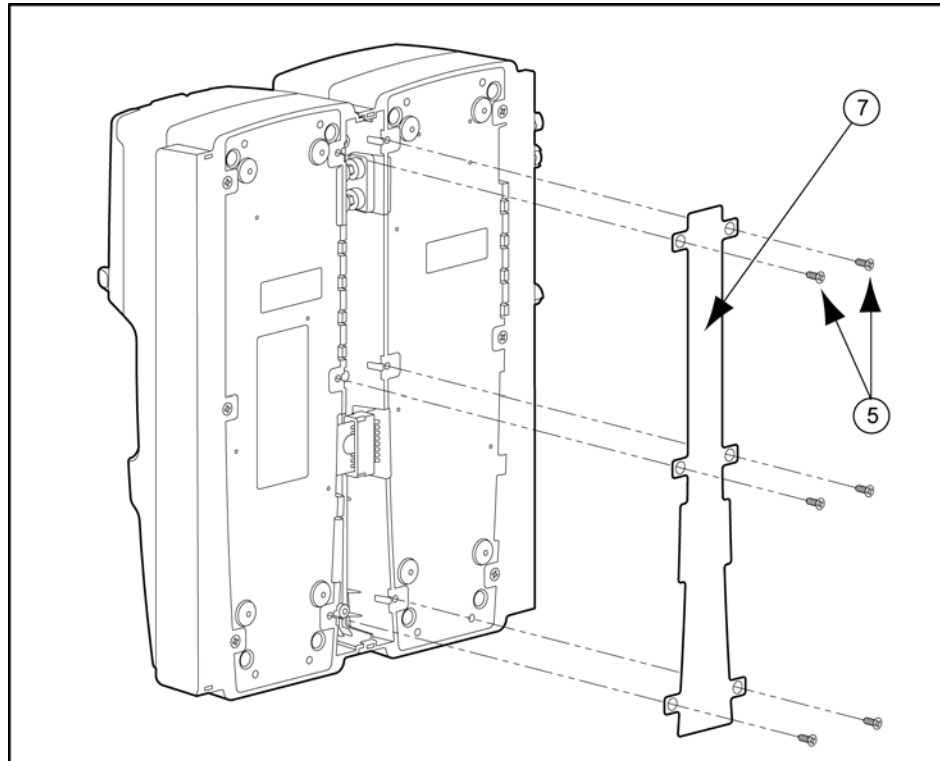
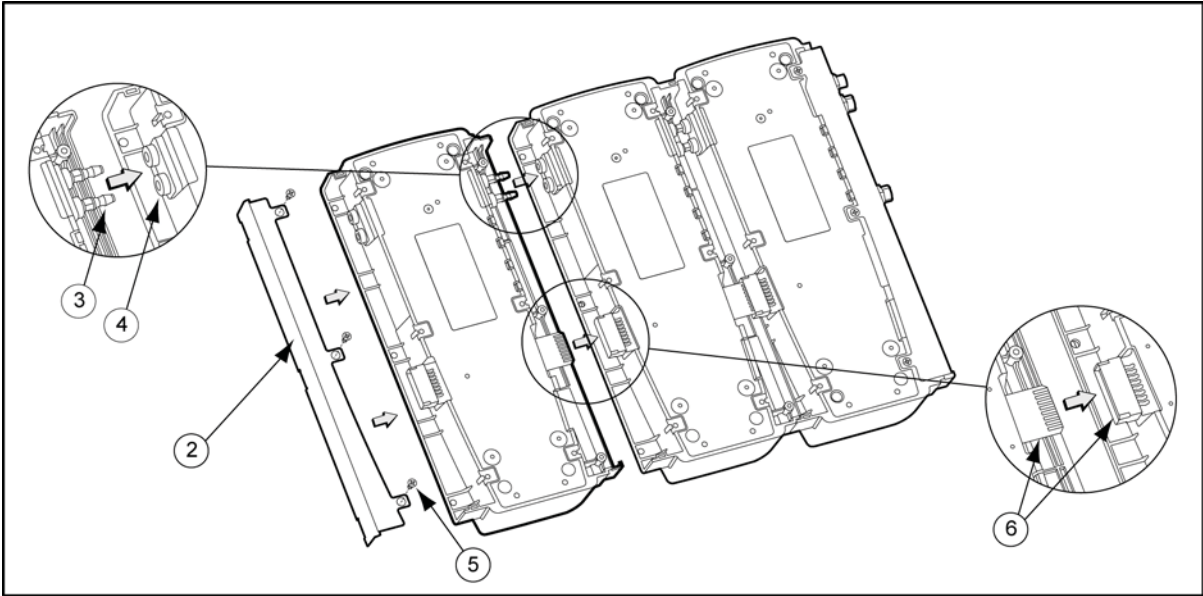
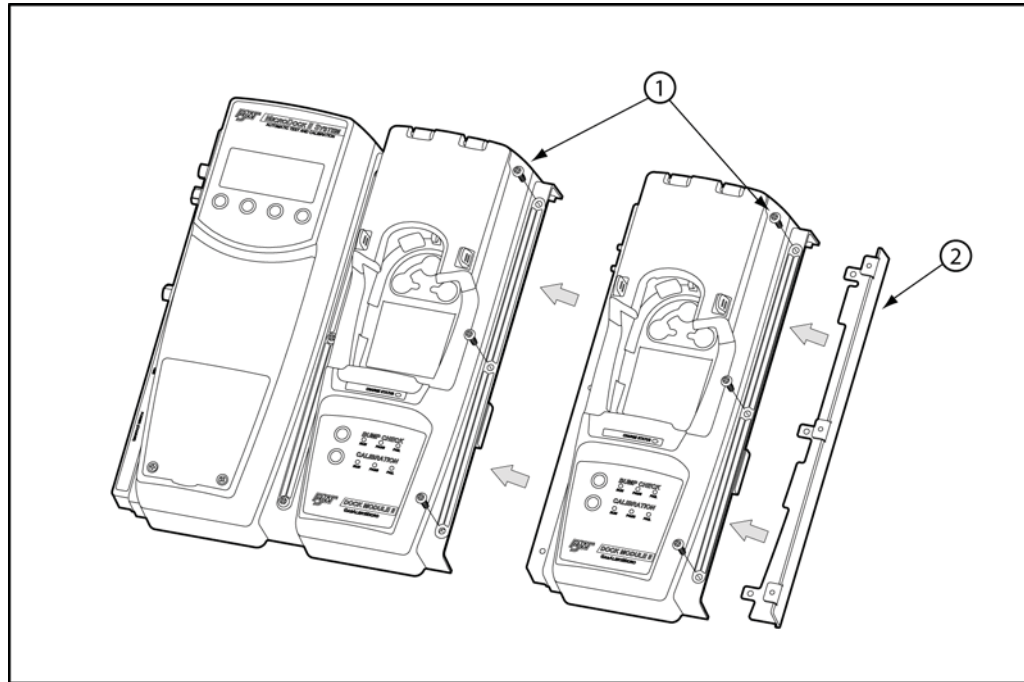

Figure 13. Attaching Back Cover Plate (Back View)
Figure 12. Adding Another Docking Module (Back View)
Figure 11. Adding Another Docking Module (Front View)
19. After all of the modules have been added, attach the end plate. Refer to Figure 11.
20. Fasten the bottom cover plate to the space between the two docking modules using six Phillips flat-head screws. Refer to Figure 13.
To add another docking module, refer to Table 12, and Table 13, Figure 11, Figure 12, and Figure 13, and complete the following procedures: